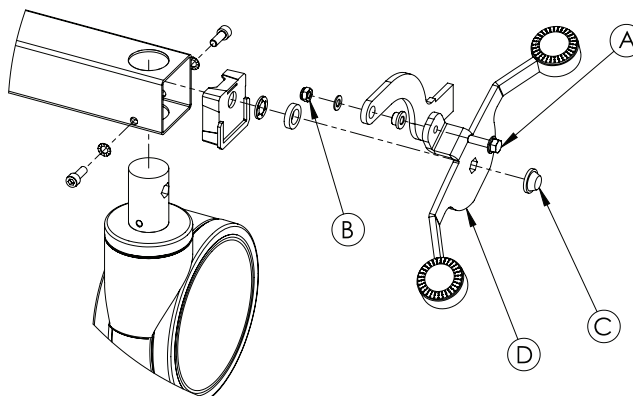

Figure 10: Brake / steer pedal
4. Using a 3/8 in. drive ratchet and 13 mm socket with a 13 mm combination wrench, remove and save the bolt (A) and nut (B) that secures the linkage to the brake / steer pedal (Figure 10 on page 57).
5. Using a large flat screwdriver and a hammer, remove and discard the push nut (C) that secures the brake / steer pedal on the hex shaft (Figure 10 on page 57).
6. Remove and discard the brake/steer pedal (D) (Figure 10 on page 57).